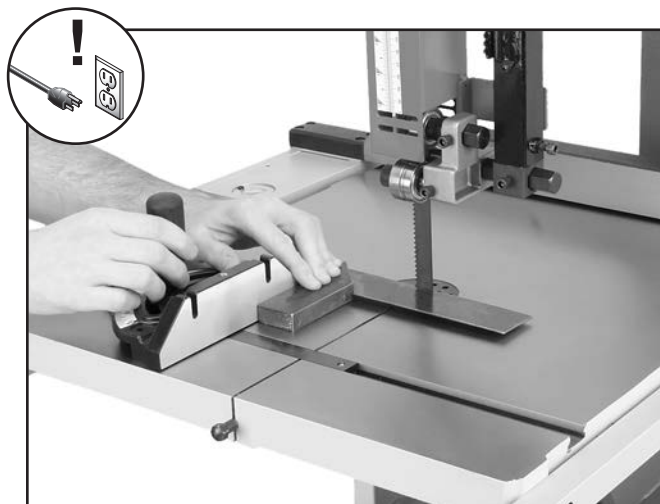

Figure 63. Squaring miter gauge to blade.
2. Place one edge of square against face of miter gauge and other edge of square against blade side, as shown in **Figure 63**.